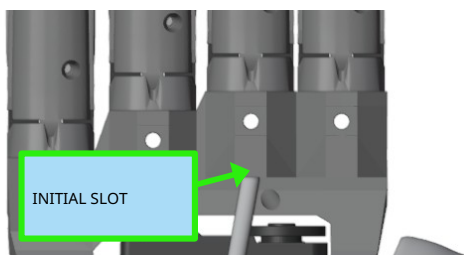

Figure 5.28 Inserting tube into the initial slot (rear view)
1. Insert one end of the PTFE tube into the initial slot (on the back of the skeleton) of the extension tendon (figure 5.28)